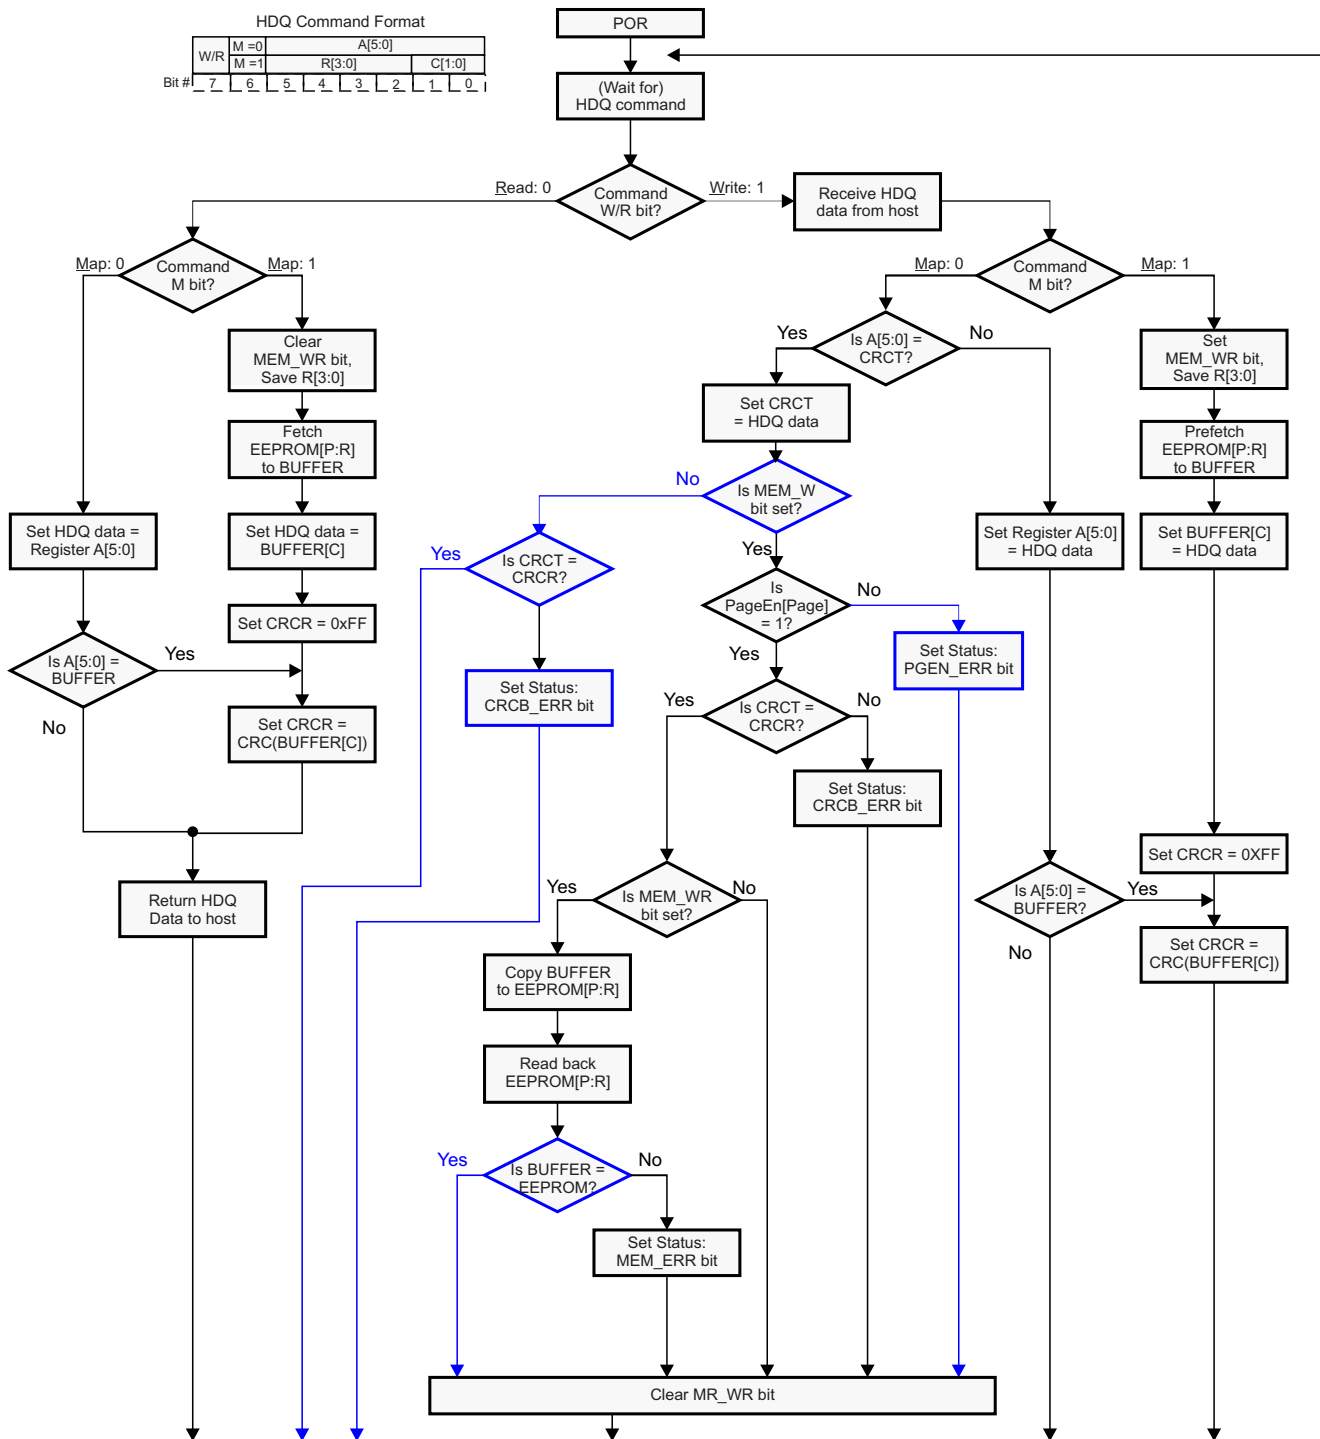

Figure 10. HDQ Access Flow Chart
**MEM\_WR (bit 4):** Memory Write flag. This bit is set during the EEPROM memory access scheme when the Map bit is set with an HDQ write command. This bit is cleared if the Map bit is set with an HDQ read command or upon completion of an EEPROM program cycle. Refer to Figure 10.
**MEM\_ERR (bit 1):** This bit is set to '1' when the device detects an EEPROM memory error. Refer to Figure 10. This bit, along with CRCB\_ERR, is cleared using the Control:ERRCLR bit.
**CRCB\_ERR (bit 0):** This bit is set to '1' when the device detects a BUFFER memory error after computing a CRC check. Refer to Figure 10. This bit, along with MEM\_ERR, is cleared using the Control:ERRCLR bit.